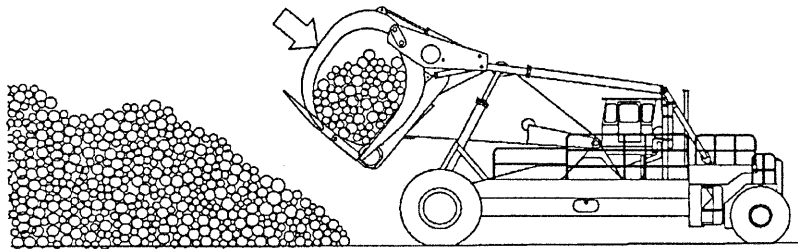

Fig 4-16
4. Tilt the carriage back fully and tightly clamp the load. Back away and lower the load. See Fig. 4-16.